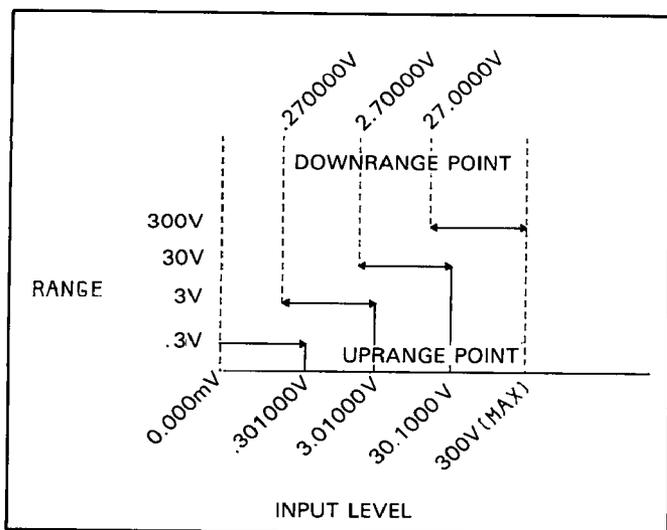

Figure 3-5. Autoranging Points
**3-44. Autorange.** The 3468A/B selects the optimum range when this mode is selected. The mode is selected when the 3468A/B is first turned on or by pressing the AUTO/MAN button (if in Manual Range). When Autorange is enabled, the 3468A/B upranges when the reading is at or above  $\pm 30100$  and downranges at or below  $\pm 027000$ . The numeric range points are irrespective of decimal placement. Refer to Figure 3-5 for the autorange points (the example is for the DC Volts Function; other functions are similar).